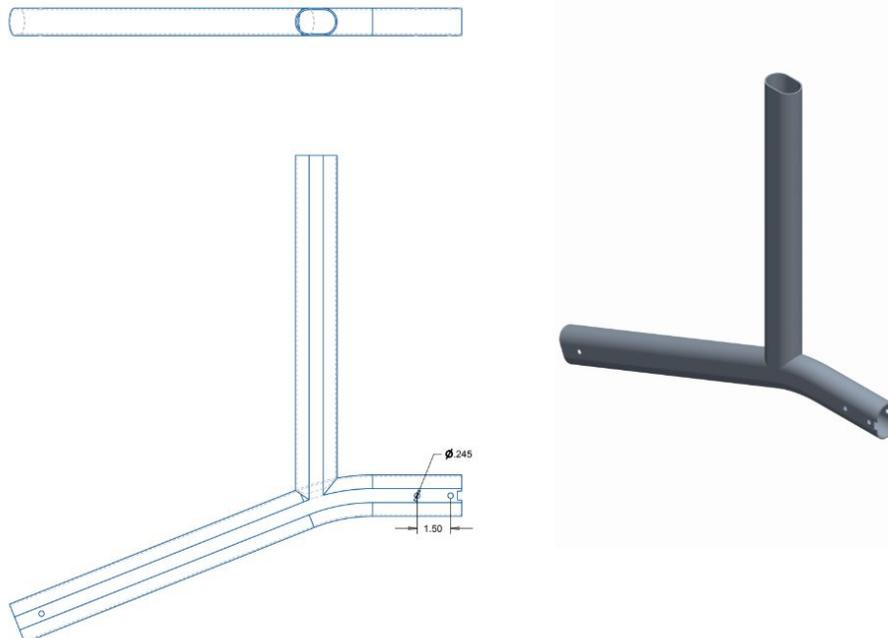

Figure 31. Existing body frame engineering drawing.
3. Punch holes through the existing body frame (Figure 31)